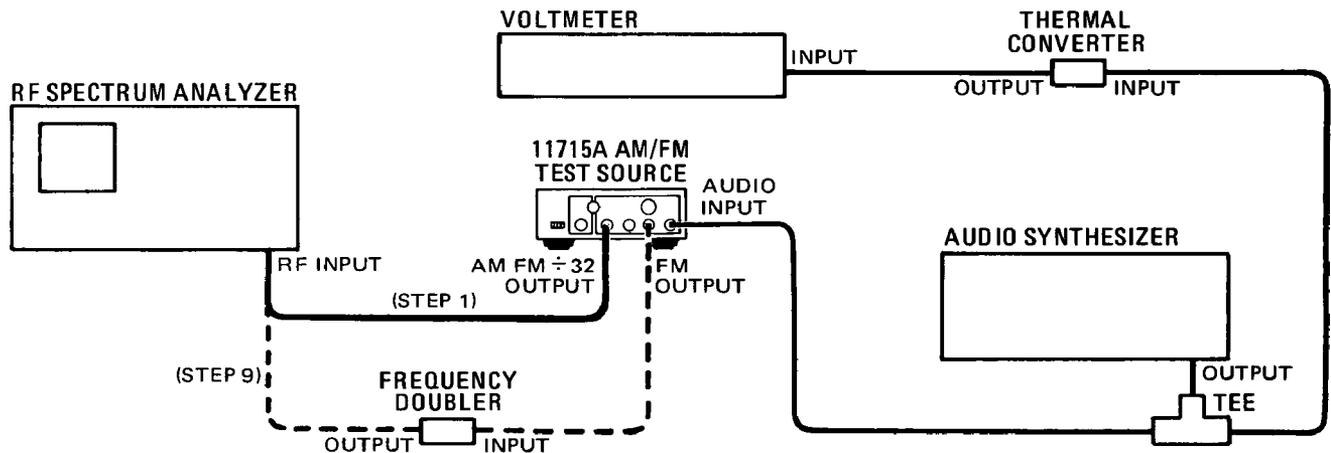

Figure 4-3. FM Flatness Test Setup
1. Connect the equipment as shown in Figure 4-3. Keep the thermal converter close to the AM/FM Test Source's AUDIO INPUT. Observe the following caution.